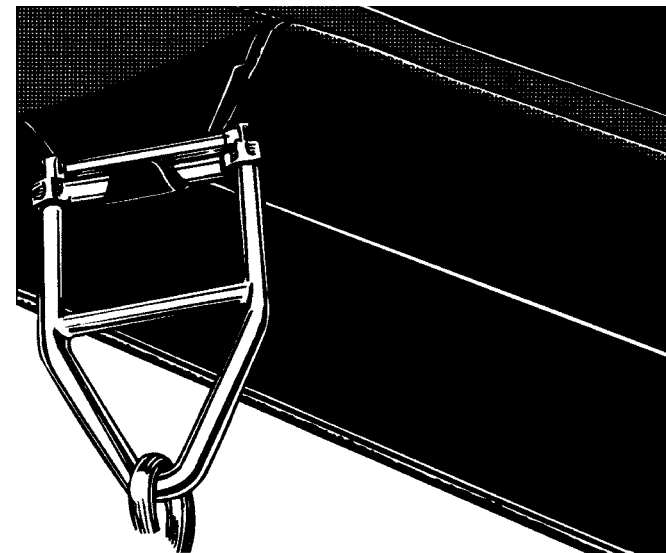

Fig. 11-8
14. Turn the belt end back down and remove the cover and top ply (Fig. 11-8). This is a very difficult pull. If a winch or equivalent is not available, use a come-along and very carefully cut the inside gum with a ply knife. NOTE: DO NOT NICK THE FABRIC. Damage to the underneath ply will cause premature splice failure.